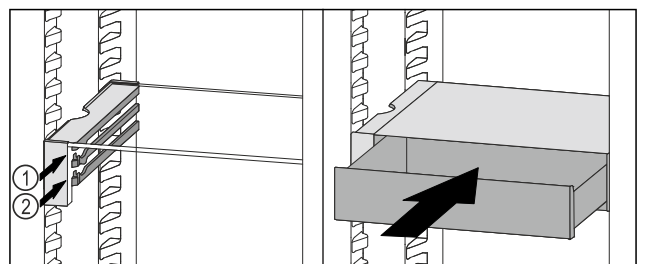

Fig. 95
- Place the VarioSafe drawer behind the stoppers on desired rib *Fig. 95 (1)* or *Fig. 95 (2)*.